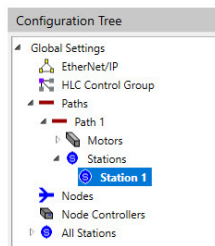

Figure 4-121: Configuration Tree Showing Station Added
*The list of stations is expanded and displayed below **Stations** in the Configuration Tree, see Figure 4-121 with the new station added to the list. The station is automatically numbered with a **Station ID** based on the setting of the **Station Insert Mode** option.*